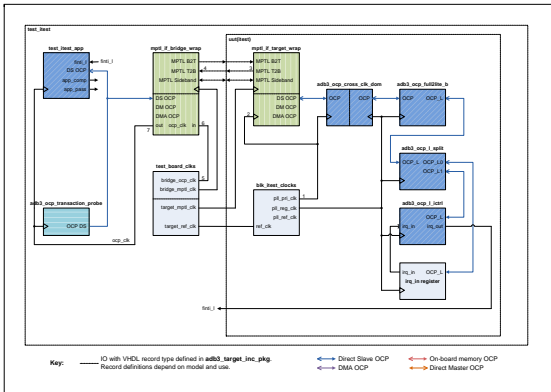

Figure 11 : ITest Design Testbench and Top Level Block Diagram (MPTL)
Figure 11 shows the testbench and main elements of the `itest` FPGA design using MPTL interface IP.
- The testbench OCP clock `ocp_clk_out` path is shown in Figure 11 as the route consisting of points 1, 2, 3, 4 and 7.
- The testbench OCP clock `ocp_clk_out` path is shown in Figure 11 as the route consisting of points 5, 6 and 7.